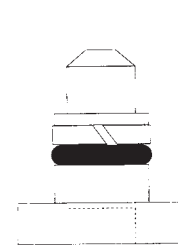

Figure 3a
- a. Once again inspect the cone of the orifice (item 8) for dings, scratches or corrosion. If necessary, use a pencil eraser to gently polish the cone surface. Defects will show as dark areas. A strong light and magnifying lens will make inspection easier.
- b. Lightly lubricate the o-ring (item 11) and roll it into the o-ring groove on the orifice.
- c. Gently stretch the backup ring (item 12) onto the end of the orifice and back into the o-ring groove.
- i. The orifice assembly for an *unbalanced* (Origin) first stage should appear like *Figure 3a.*, and is ready to install.
Balanced orifice assembly missing one or more spring washers (item 10).	See Figures 3a & 3b for visual references of unbalanced and balanced orifice assemblies.